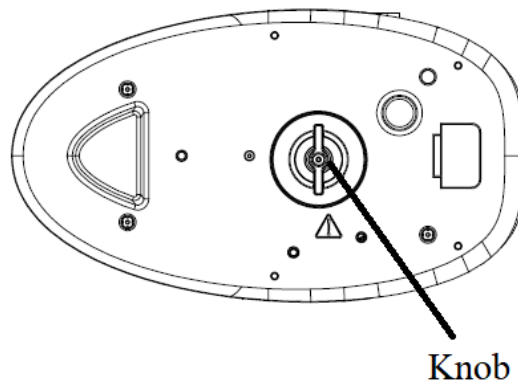

Fig.4
3. To remove the mineral deposits collecting at inner steam generator, follow the operation as below: firstly reverse the unit base and place it on a level surface horizontally, make sure that the unit base shall be placed stably, then cover a towel on the knob and rotate the knob with the towel to detach it. After that, drain the steam generator and then, refill the steam generator with clean water and again empty the water. Repeat the operation of cleaning the steam generator for 2-3 times to clean it well (see Fig. 4).